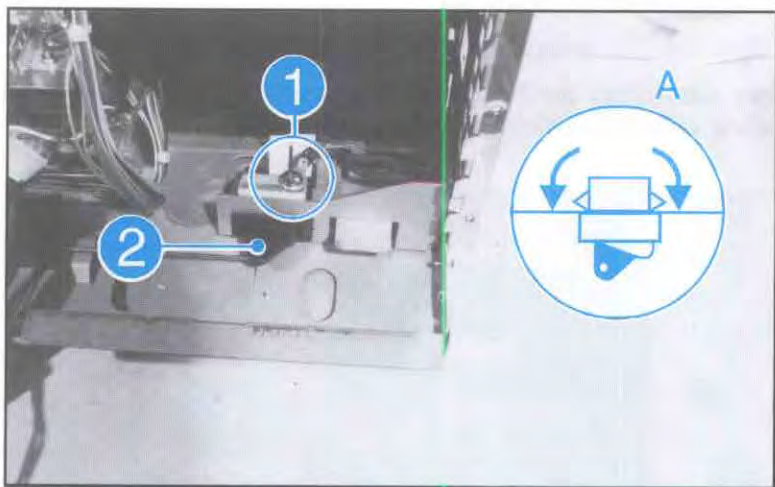

Figure 6-25. Power Switch
5. Unplug the (2) AC Power connectors (see Figure 6-25, callout 1).
6. Push the Power Switch Rod downward to remove it from the Power Switch (see Figure 6-25, callout 2).
7. Use a small flat-head screwdriver to depress the Power Switch tabs, and remove the switch (see Figure 6-25, detail A).